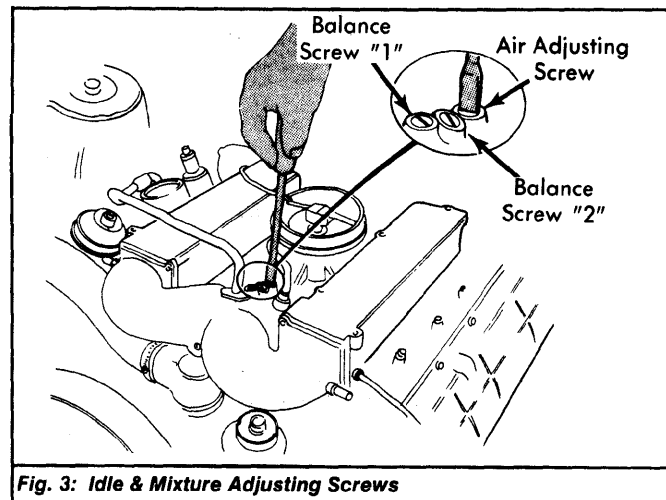

Fig. 3: Idle & Mixture Adjusting Screws
2) Connect tachometer and exhaust gas analyzer to vehicle. Check idle speed RPM. If necessary, adjust idle speed to 900 RPM by means of air adjusting screw. See Fig. 3.
5) To check balance between cylinder banks, turn dual probe adapter valve toward left (right) cylinder bank and check CO% level. If left bank CO% level is incorrect, adjust balance screw "2" (balance screw "1" for right bank). See Fig. 3.